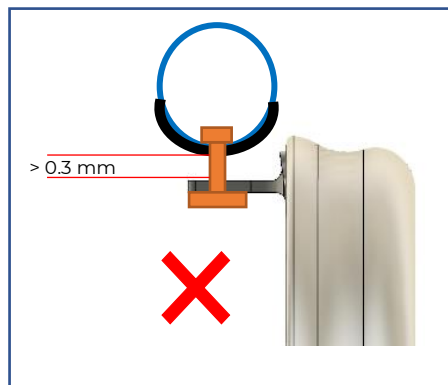

Figure 2: Measuring the gap between the mounting tab and wheel
- d. Using a feeler gauge, check that the gaps between the mounting tabs and wheel does not exceed 0.3 mm. See Figure 2.